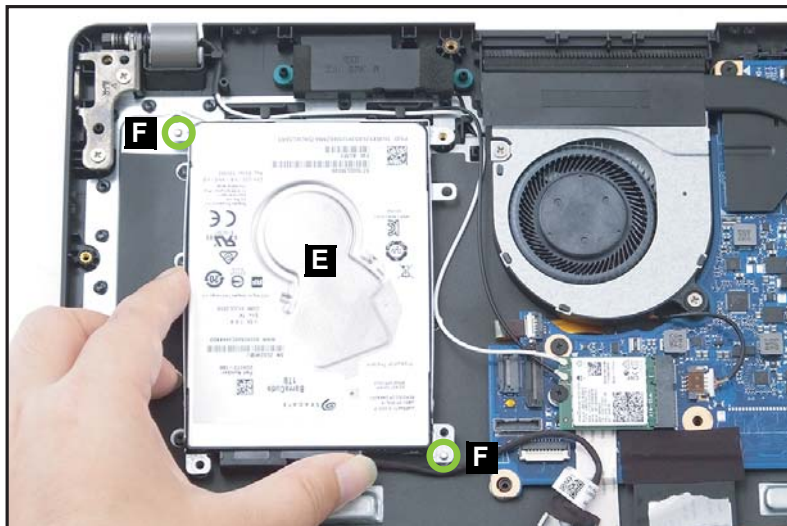

Figure 1-106. Replacing the HDD Module
4. Install the HDD module assembly (E) onto its compartment. Make sure the guide pins (F) and HDD bracket screw holes are properly aligned (Figure 1-106).